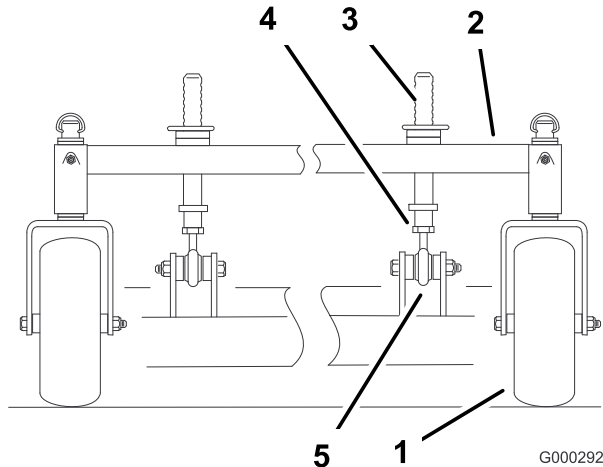

Figure 59
1. To change the front-to-rear pitch, the front height-of-cut posts can be adjusted (Figure 59).
2. To raise the front of the deck, loosen jam nut and rotate the front pin clockwise (Figure 59).
3. To lower the front of the deck, loosen jam nut and rotate the front pin counter clockwise (Figure 59).
6. Tighten the jam nuts (Figure 59).